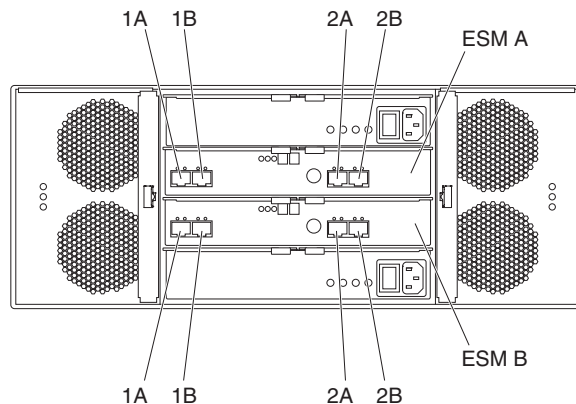

Figure 48. EXP5060 port labels
3. The DS5100 and DS5300 controller drive port must always be connected to the EXP5060 ESM port labeled 1B in non-trunking configurations and EXP5060 ESM ports labels 1B and 2B in drive-side trunking configurations. Figure 48 shows the port labels on the EXP5060.